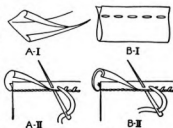

FIGURE 105
**27. Bindings.** *In General* (Figure 105). — Bindings are used for decoration and to finish raw edges. They should be cut twice